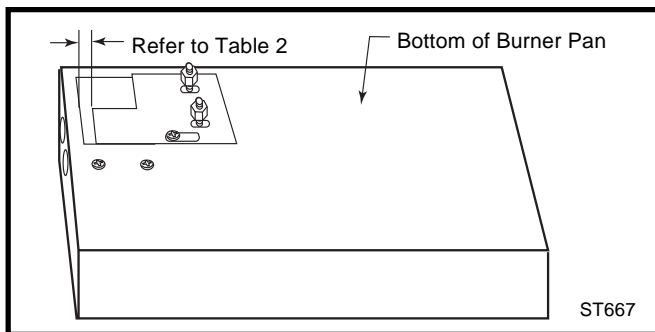

Fig. 43 Adjust air shutter on bottom of heater, Refer to Table 2 for correct position.
16. Air shutter adjustment. The unit is shipped from the factory with the air shutter open 1". For LP units only, the air shutter could be closed further. Refer to Table 3 for minimum air shutter opening. The air shutter is located on the bottom of the burner to the left. (Fig. 43)
Replace glass only with CFM Specialty Home Products approved parts. Refer to Page 25 for Replacement Parts. Refer to Figure 43 for removal of the damaged glass frame.